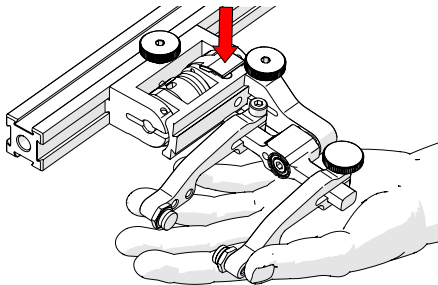

Fig. 98 - Lift slightly and press latch
2. Lift the probe holder slightly and press the latch button (Fig. 98) to release the probe holder to the full 45° degrees.